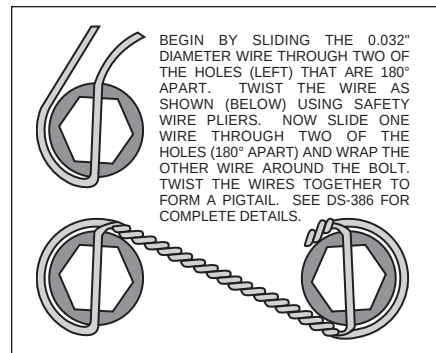

Figure 3. Safety Wire Diagram
- The flat spindle/caliper mounting bracket (1) should be installed first with clean, dry threads on the mounting bolts. Install the bracket on the back side of the spindle by sliding bolt (2) through the bracket (1) and into the upper hole of the spindle upright boss. Torque bolt (2) to 140 ft-lb. Slide bolt (3) through lower spindle “ear”, through the bracket (1), washer (4), and secure with nut (5). Torque bolt (3) to 77 ft-lb. The bracket must tighten squarely against the side of the spindle body. Inspect for interference from casting irregularities, machining ridges, burrs, etc.
- With the larger I.D. side of the rotor (6) facing away from the hat (7), bolt rotor (6) to hat (7) through the backside of the rotor using bolts (9), and washers (8). Using an alternating sequence, apply red *Loctite*® 271 to the threads and torque bolts to 155 in-lb. For an added measure of security, the bolts may be safety wired using standard 0.032 inch diameter stainless steel safety wire as shown in Figure 3. Please refer to Wilwood's data sheet DS-386 (available at www.wilwood.com/Pdf/DataSheets/ds386.pdf) for complete safety wire installation instructions.